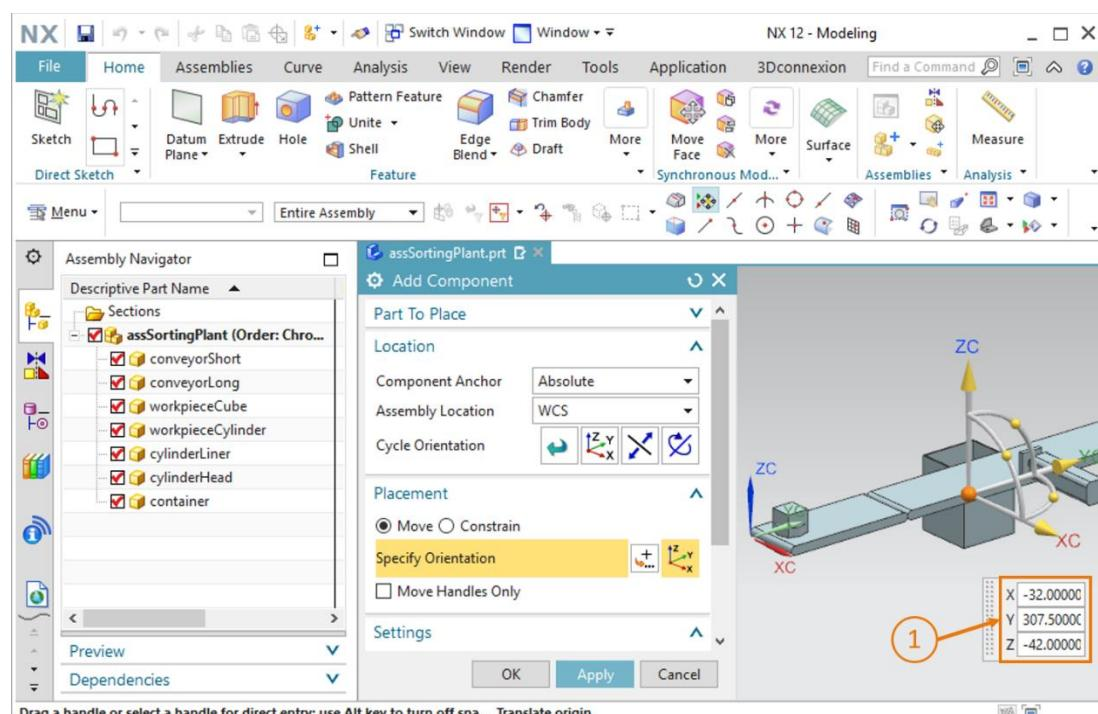

Figure 64: Positioning the "container" model in the assembly
- Enter the following coordinates for the position in space, as shown in Figure 64, step 1: